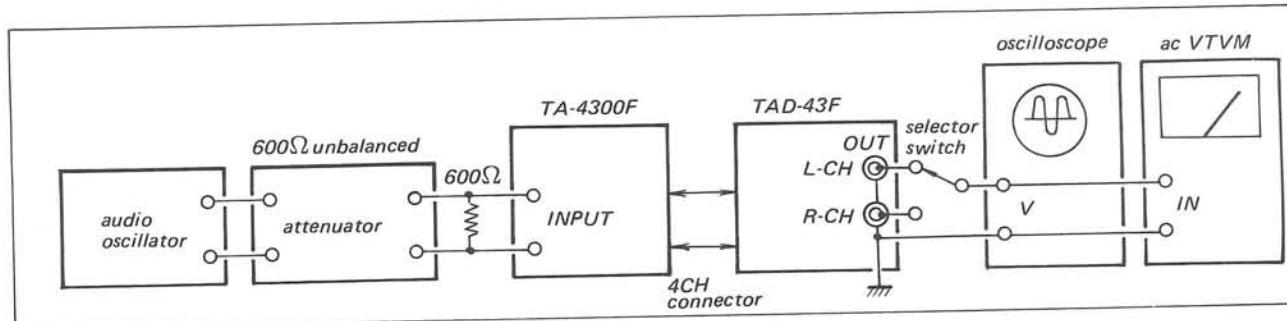

Fig. 3-2 Crosstalk measurement test setup
- With the equipment connected as shown in Fig. 3-2, feed a signal to the left channel INPUT jack as specified in Table 3-2 to obtain a 0 dB output.